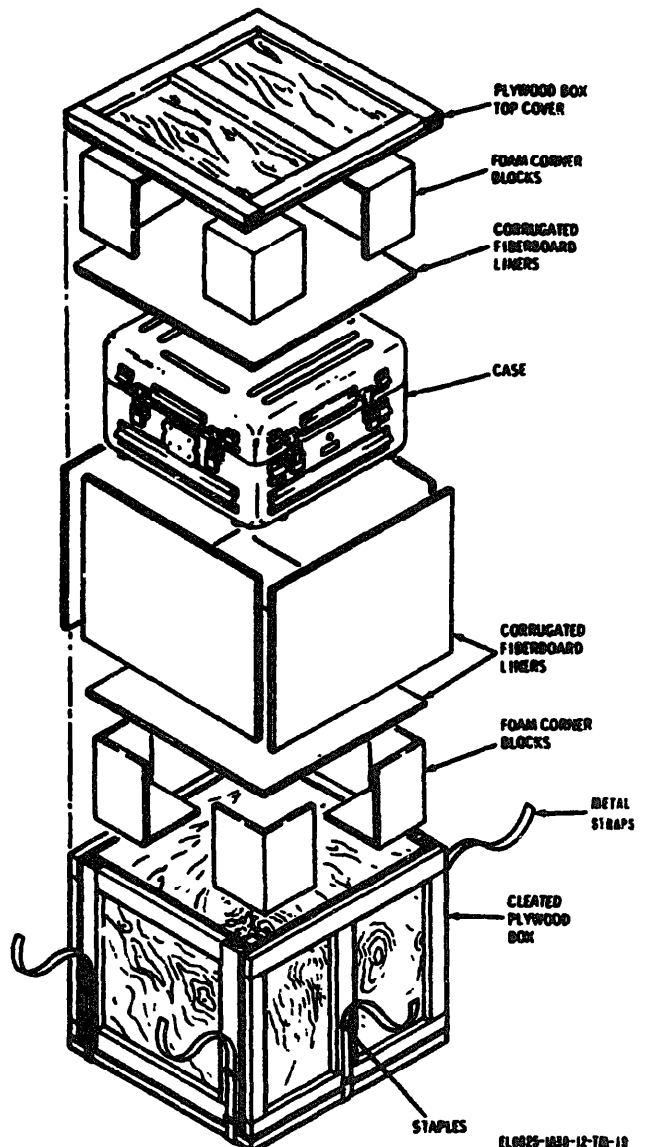

Figure 7-1 Packaging of Interface Test, Antenna Drive TS-3974/APS-94D.
(fig 7-1)
**a. Packaging Data.** When packed for shipment or limited storage, the test set is packaged in a cleated plywood shipping crate that is reinforced with metal strapping. The bound box is approximately 26 inches high by 31 inches wide by 28 inches deep and weighs an estimated 125 pounds including contents. The volume of the bound box is approximately 18.1 cubic feet. A typical shipping crate with its contents is shown in figure 7-1.
(1) Cut the metal straps from around the plywood shipping crate.